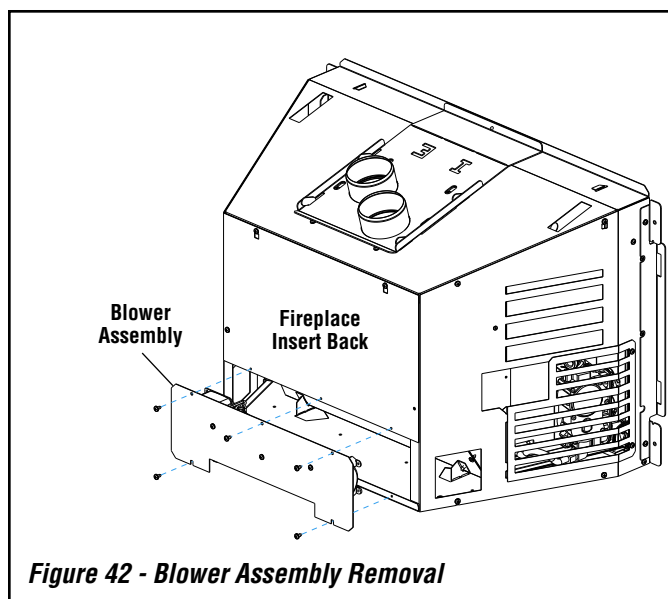

Figure 42 - Blower Assembly Removal
2. Remove five phillips screws holding fan assembly in place and carefully move assembly out of the way, exposing appliance wiring (see **Figure 42**).